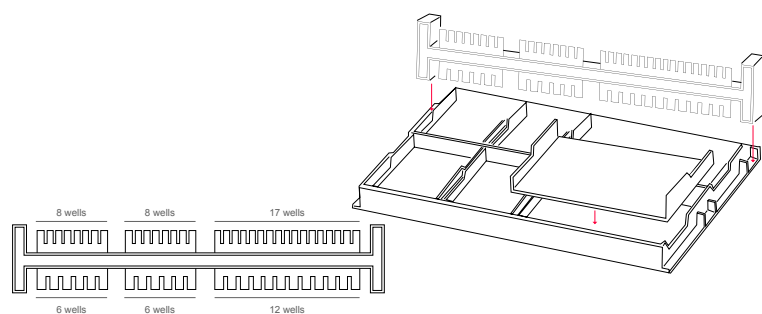

Figure 1: RunOne Casting System
3. Place the agarose gel trays in the casting stand (Figure 1). Allow the agarose gel solution to cool to 65 - 70°C before pouring into the gel trays. This precaution will prevent the gel trays from warping in a long run.